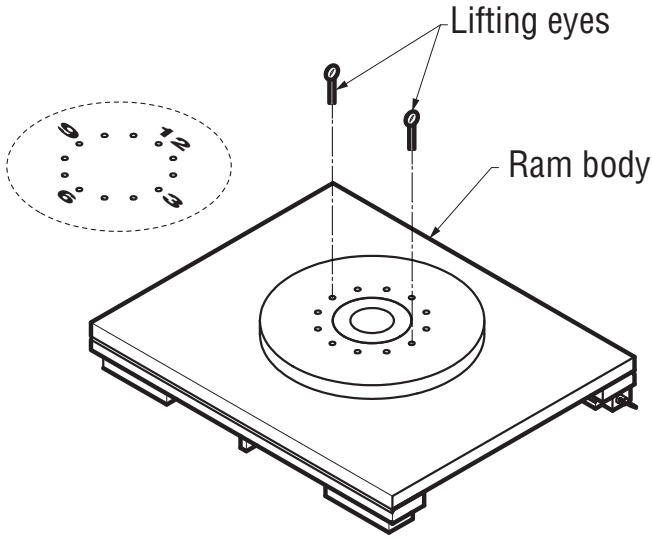

Figure 5-3, Lifting Eye Installation
2. Thread two lifting eyes rated for a minimum of 1000 lbs. through the symmetric holes in the body face at the 3 and 9 o'clock positions in the hole pattern. The weight of the ram body is 780 lbs. (Figure 5-3)